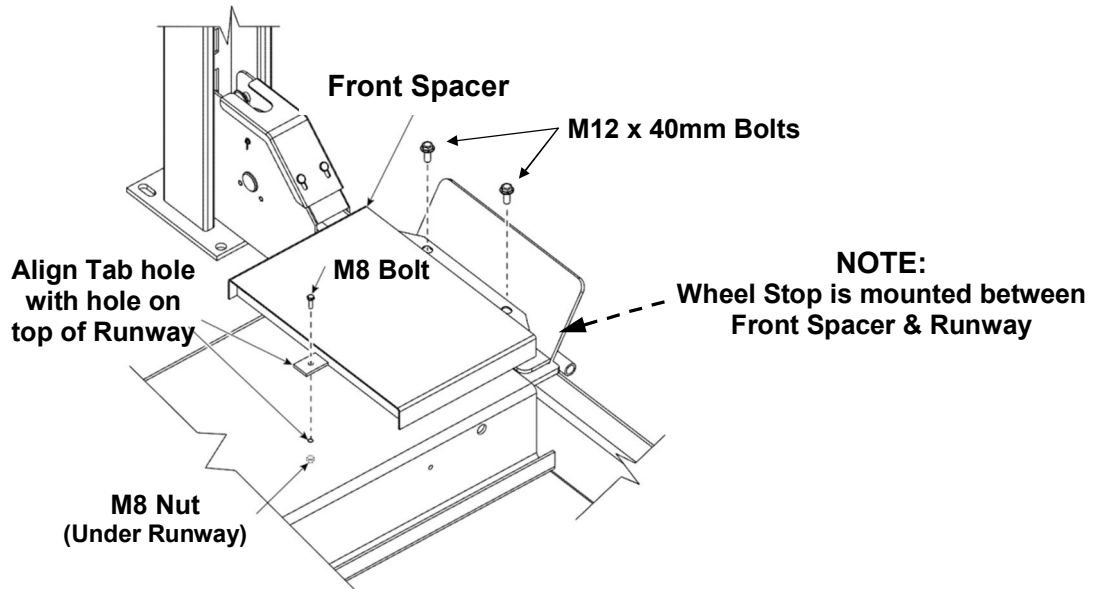

Fig. 2
- 2) Position the Front Spacer (#2) on Runway, so the bolt holes align with the Wheel Stop holes and the center hole in Runway - **Fig. 2**.
- 3) Secure back of Front Spacer to Runway using M8 Bolt & Nut, while also securing the front using M12 x 40mm Bolts - **Fig. 2**. **NOTE: Alignment Wheel Stop is mounted between Front Spacer & Runway.**